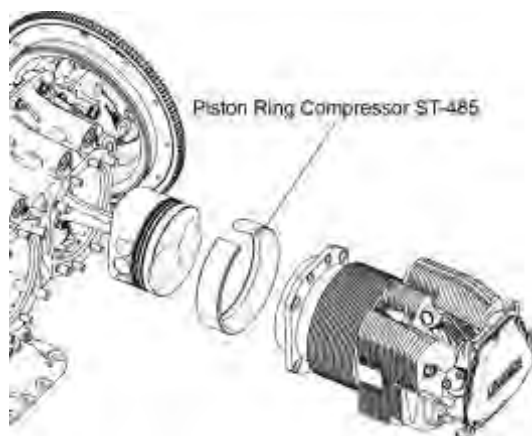

Figure 28
E. Use the Piston Ring Compressor (ST-485) to install the cylinders (Figure 28) as follows: